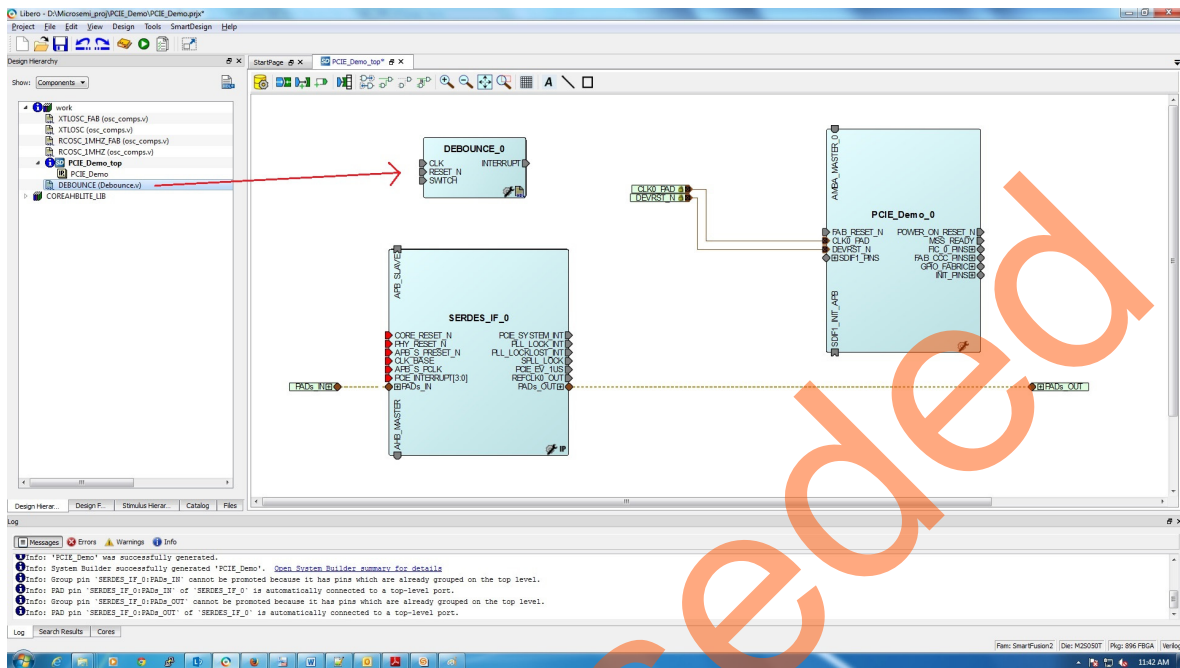

Figure 20 • DEBOUNCE Component in Design Hierarchy
4. Click the **PCle_Demo_top** tab and drag the **DEBOUNCE** component from the **Design Hierarchy** into the **PCle_Demo_top SmartDesign** canvas as shown in Figure 20. A SmartDesign symbol for the Verilog HDL file is automatically generated.